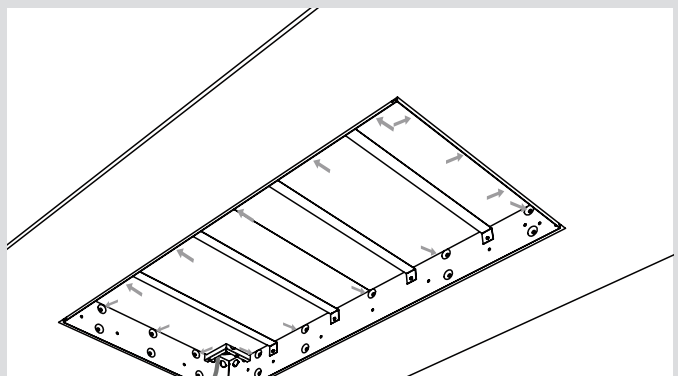

Figure 4
3. Insert the box into the hole and secure it using No. 8 screws (not included) into the mounting bosses. (Fig. 4).